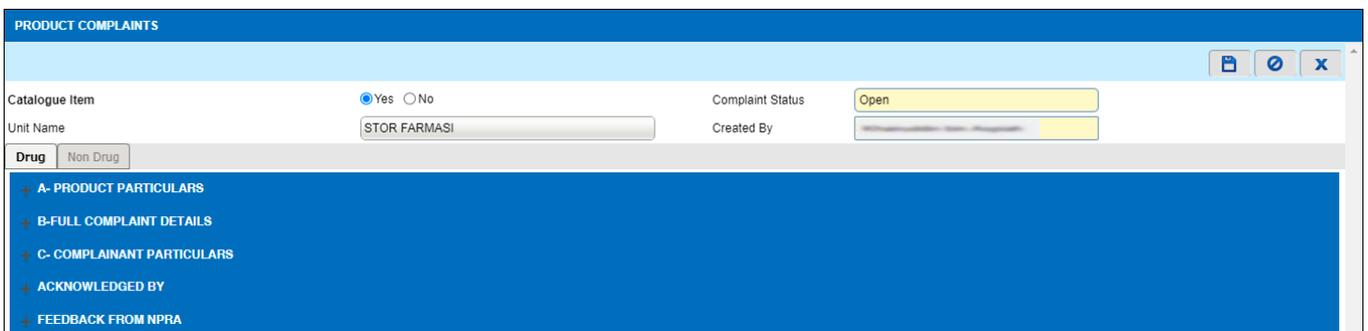

Figure 3.2.1-2 New Drug Product Complaints – Catalogue Item
- Product Complaints screen will be displayed in Figure 3.2.1-2
- These are the three (3) sections in a New Product Complaints form required to be filled: